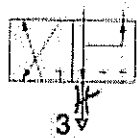

fig. 3
Versione stagna IP65, pilota integrato (fig. 3): montare la bobina sul cassetto (orientabile a 360°), poi il connettore disinnestabile CM8 (Pg 9P), orientabile a 180° (3 morsetti: 2 + massa).
The Series 551 3/2 NC or 5/2 spool type valves have a specially-treated aluminium body with a mounting surface as per NAMUR recommendations for direct installation of a single-acting (3/2 NC function) or double-acting spool (5/2 function). The same type of solenoid valve can accommodate both types of operator by internally installing the 3/2 NC or 5/2 interface plates supplied (fig. 3, rep. 1).
- Select the interface which corresponds to the required function: 3/2 NC or 5/2 (fig. 3, 1a or 1b).
- Make sure the seal is properly fitted (fig. 3, rep. 7).
- Assemble the interface under the spool valve with the 2 screws supplied (fig. 3, rep. 8). Make sure the indication of the function is placed on the return side (polarizing slot).
- Fit the two O-rings (fig. 3, rep. 9).
- On the 3/2 NC function plate: the Ø 5 dia. hole is at A1 (fig. 3).
- On the 5/2 function plate: the Ø 5 dia. hole is at A2 (fig. 3).
### • Connection of the spool valve (fig. 3)
Installation / Adjustment (fig. 3):
It may be possible to connect the exhausts of the integral pilot version (fig. 3):
IP65 sealed version with integral pilot (fig. 3): Fit the coil on the tube (rotatable through 360°), then CM8 spade terminal connector (Pg. 9P), rotatable by 180° increments (3 pin: 2 + earth).